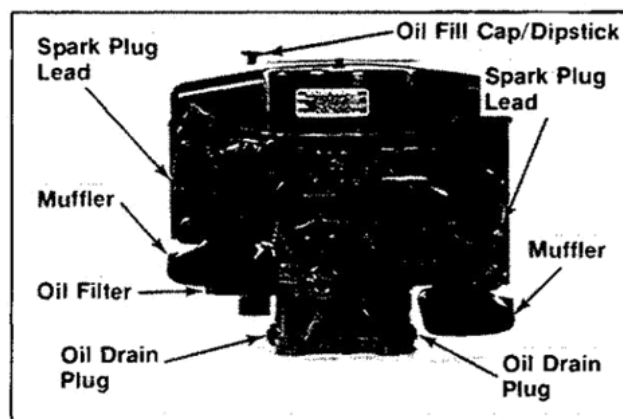

Figure 9-1. Removing Spark Plug Leads, Oil Drain Plug, Oil Filter, And Mufflers.
1. Remove the oil fill cap/dipstick, and oil drain plug. Drain the oil from crankcase. Refer to Figure 9-1.